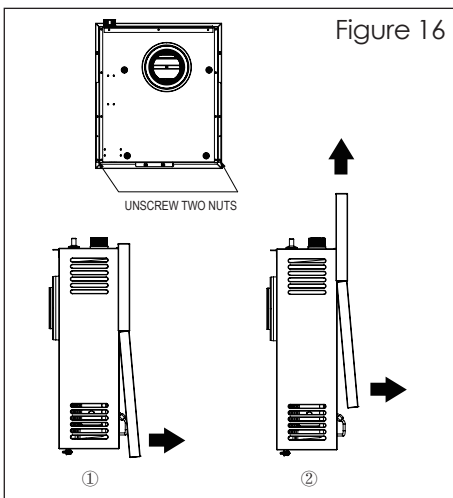

Figure 16
- Separate the front panel of the appliance by removing the two nuts in the bottom and sliding it up as shown in figure 16.